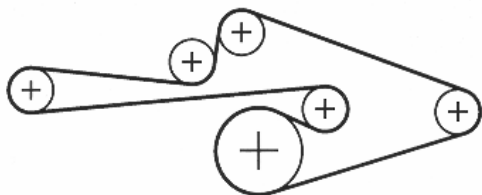

FIGURE 4.1
4. Route new belt as shown in Figure 4.1, leaving belt off of left spindle pulley.